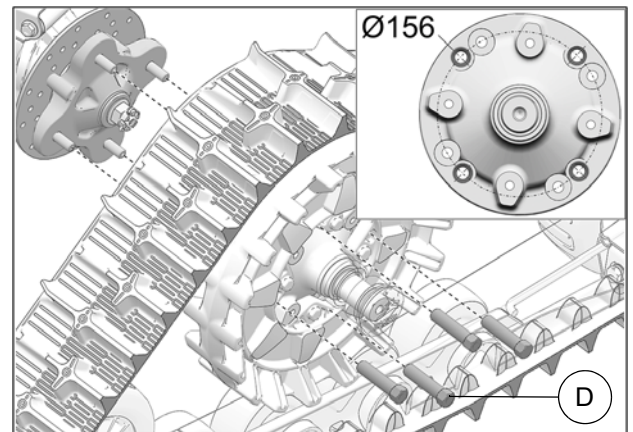

Fig. 8
- Secure undercarriage to rear hub using the provided M12 lug nuts (D). Use bolt circle Ø156 mm. See Fig. 8